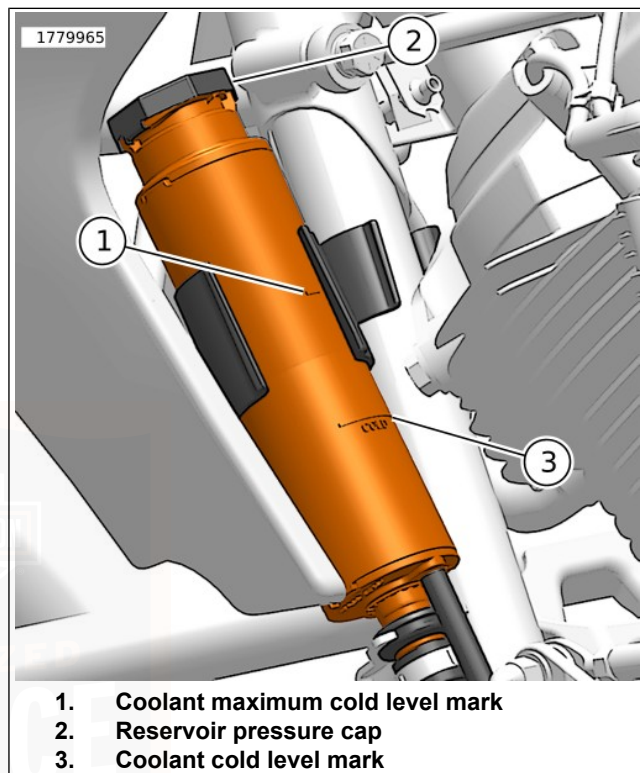

Figure 96. Coolant Level
1. See Figure 96. Check that coolant level in reservoir is between the coolant maximum level mark (1) and the coolant cold level mark (3).
3. See Figure 96. Remove reservoir pressure cap (2).
5. Add GENUINE HARLEY-DAVIDSON EXTENDED LIFE ANTIFREEZE AND COOLANT until fluid level reaches, or is slightly above the coolant cold level mark (3).